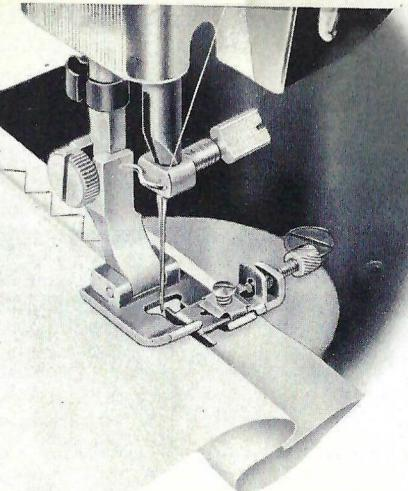

Fig. 56
9. Fold under entire width of prepared hem, right sides together, and allow approximately  $\frac{1}{4}$  inch of seam binding to protrude beyond fold on the wrong side, then place hem of garment under the Blindstitch Foot (see Fig. 56).